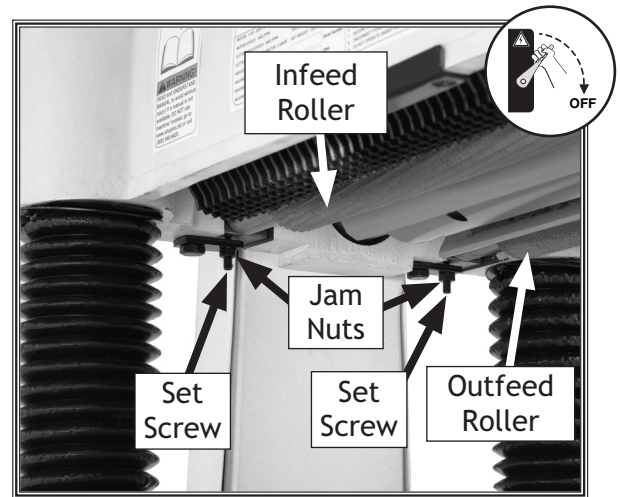
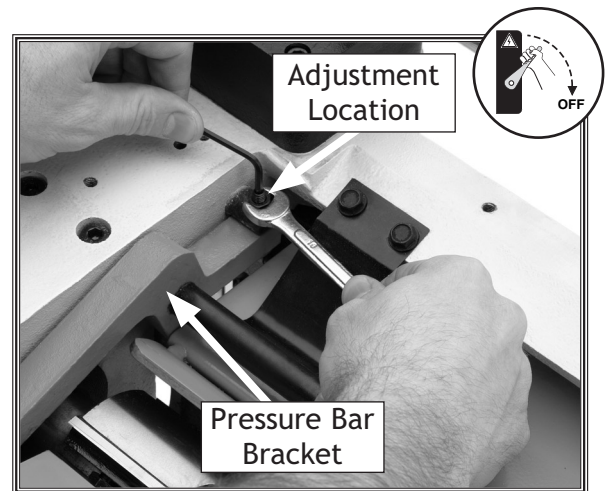
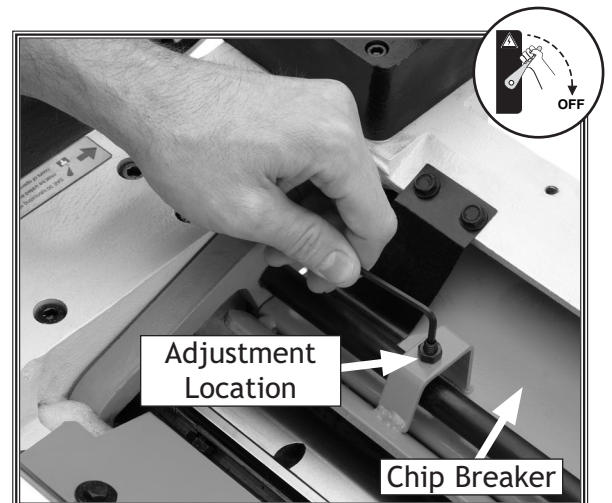

Figure 30. Typical roller height adjustment controls.
Figure 31. Typical pressure bar height adjustment controls (One side shown. Bar not in sight.)
Figure 32. Typical chip breaker height adjustment controls (One side shown).
7. Adjust the height of the infeed roller on the same side as the Rotacator to the specification given at the beginning of this procedure, using the zero setting of the Rotacator as a reference point. **Figure 30** shows the jam nut and set screw for adjusting the roller height.
8. Loosen the infeed roller adjustment jam nuts (**Figure 30, Page 32**) and turn the adjustment set screws on each end to raise the feed roller above the wood block (if necessary), then bring it back down so it just touches the wood block on both sides.
10. Without moving the table, adjust the chip breaker (**Figure 32**), pressure bar (**Figure 31**), and outfeed roller (**Figure 30**) in the same manner, using the wood blocks as your reference point.